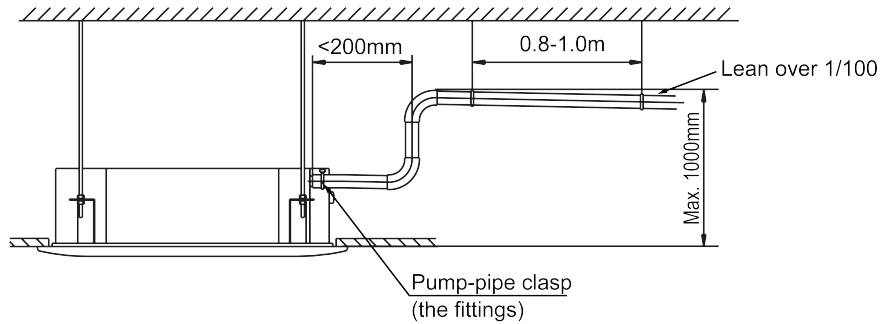

fig. 12.12
- In case the drainpipe outlet is higher than pumping connective pipe of the main body, the drainpipe must be arranged upwards vertically by using connective assembly of the water outlet for vertical bending, and the height of the drainpipe shall set to the defrosting pan surface no more than 1000mm, otherwise, too much backflow while shutdown would leads to overflow (refer to fig.12.12).